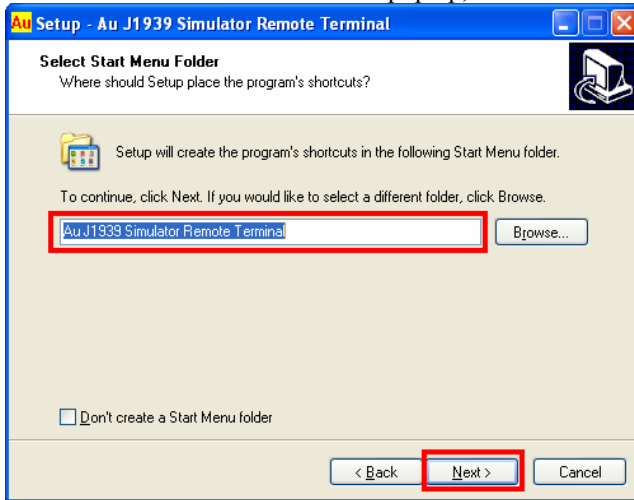

Figure A-6
6. “Select Start Menu Folder” window pop up, use the default folder and click “Next” to continue (Figure A-6).